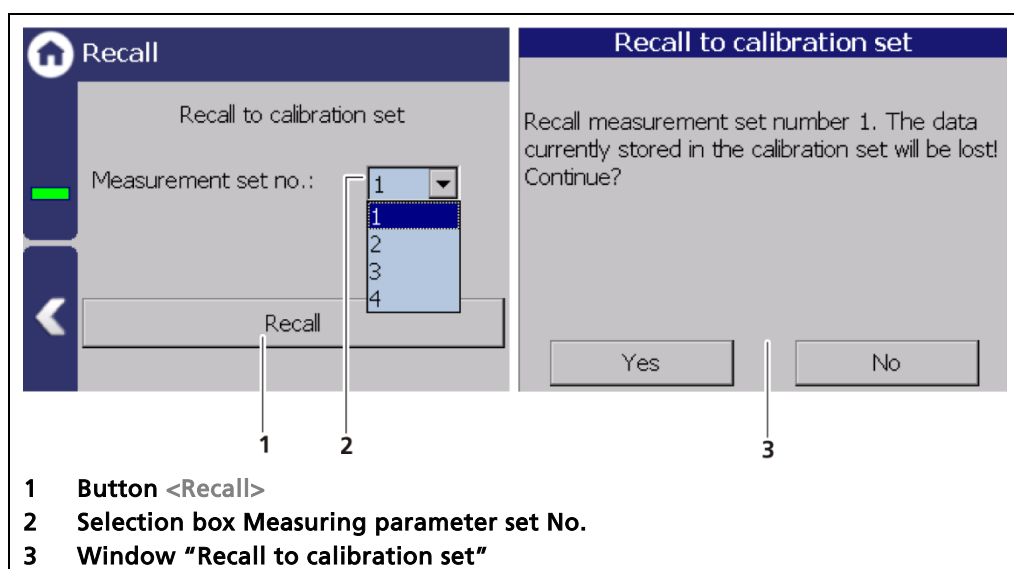

Fig. 94 Recalling the measuring parameter set
1. Select the measuring parameter set (Fig. 94, item 2) that needs to be activated.